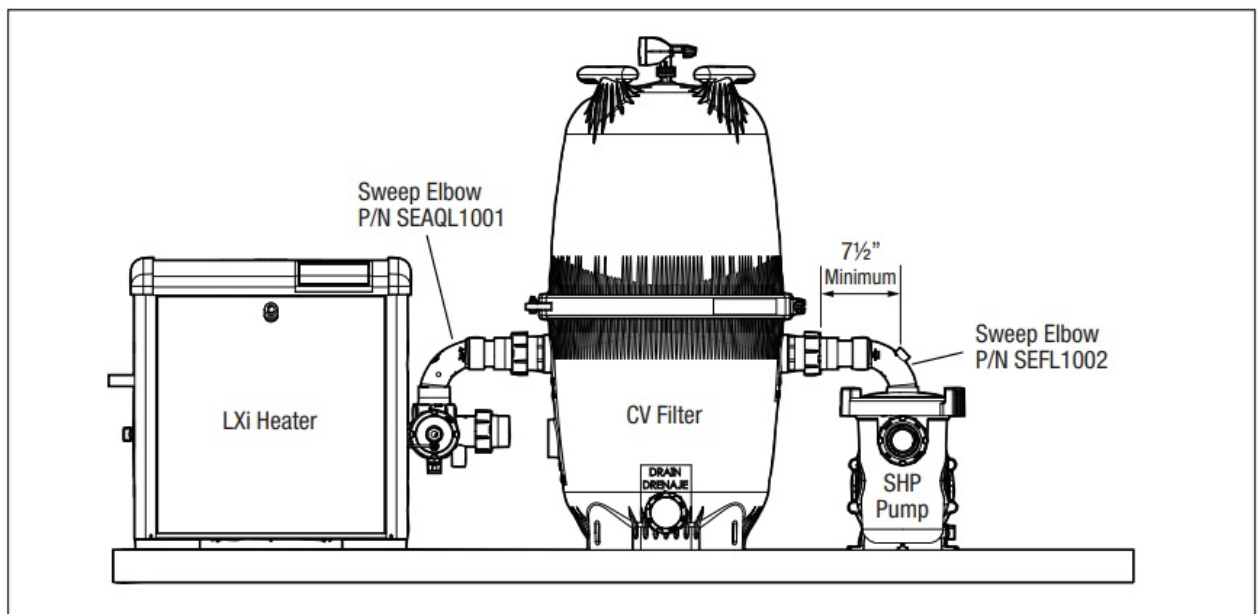

Figure 8. LXi™ Heater, CV Filter and SHP Pump Sweep Elbow Installation
- Be sure there is a minimum distance of 7½ inches between the center of the pump outlet port and the filter inlet bulkhead to accommodate the sweep elbow(s). See Figure 8 for recommended installation configuration.
NOTE: The SHP pump shown in Figure 8 is for reference only.